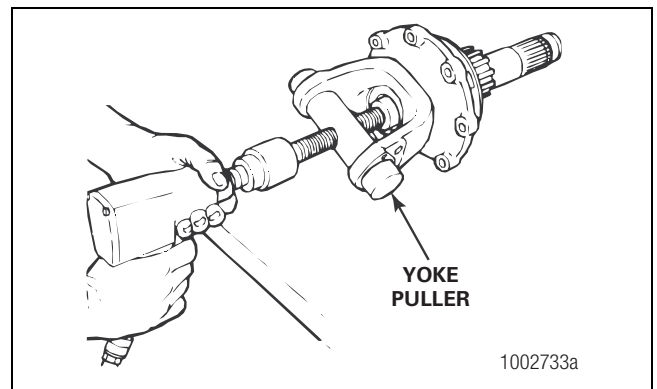
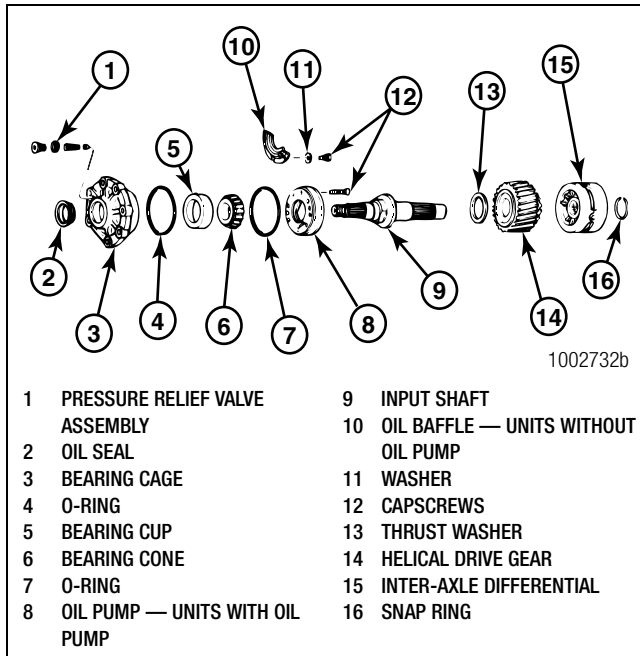

Figure 3.27
Figure 3.28
1. Use the correct tool to remove the yoke or flange from the input shaft. Figure 3.27. If the carrier is not equipped with an oil pump, remove the bearing cage from the input shaft. Figure 3.28.